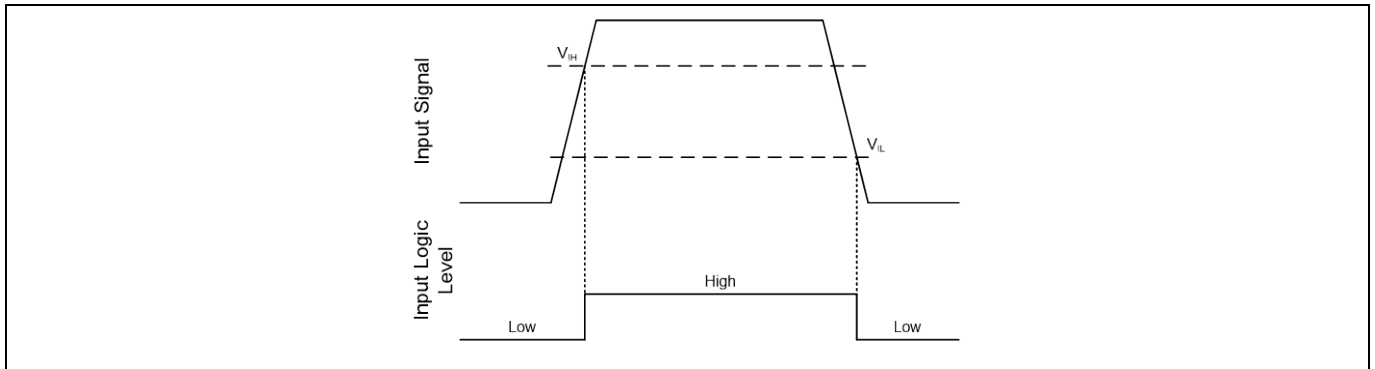

Figure 10 IN input thresholds
The input pins of are based on a TTL and CMOS compatible input-threshold logic that is independent of the  $V_{CC}$  supply voltage. With typical high threshold ( $V_{IH}$ ) of 2.1 V and typical low threshold ( $V_{IL}$ ) of 0.9 V, along with very little temperature variation as summarized in Figure 10, the input pins are conveniently driven with logic level PWM control signals derived from 3.3 V and 5 V digital power-controller devices. Wider hysteresis (typically 0.9 V) offers enhanced noise immunity compared to traditional TTL logic implementations, where the hysteresis is typically less than 0.5 V. 2ED218x family also features tight control of the input pin threshold voltage levels which eases system design considerations and ensures stable operation across temperature. The 2ED218x features floating input protection wherein if any of the input pin is left floating, the output of the corresponding stage is held in the low state. This is achieved using pull-down resistors on the input pin (IN) as